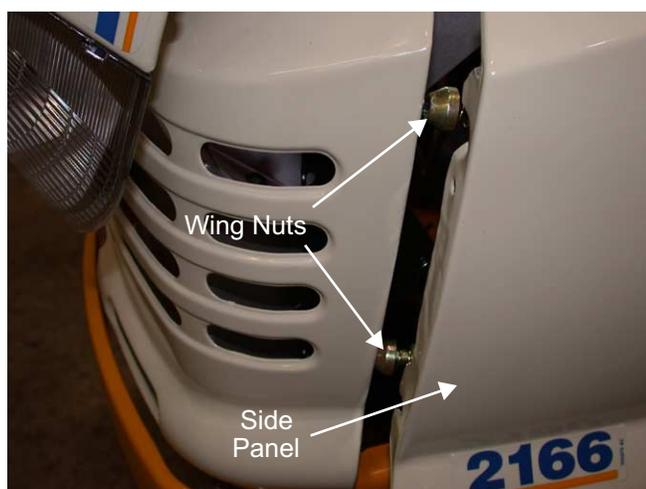

Figure 1.12
1.12. The side panels can easily be removed by just loosening the top two wing nuts inside at the top of the panel. Grasp the side panel just behind the grille and pull outward to release the panel from the tapered bushings on the grille. Slide the panel forward out of the grooves on back of the dash, and lift upwards. See the Owner's Manual for more information, if required. See Figure 1.12.